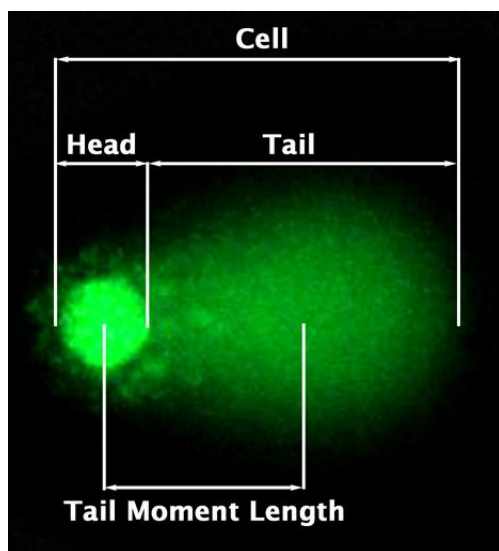

Figure 2: Epifluorescence Microscopy Visualization of DNA Damage.
- (b) Extent Tail Moment = Tail DNA% x Length of Tail (see Figure 2)
- *Tail Moment Length is measured from the center of the head to the center of the tail (see Figure 2)